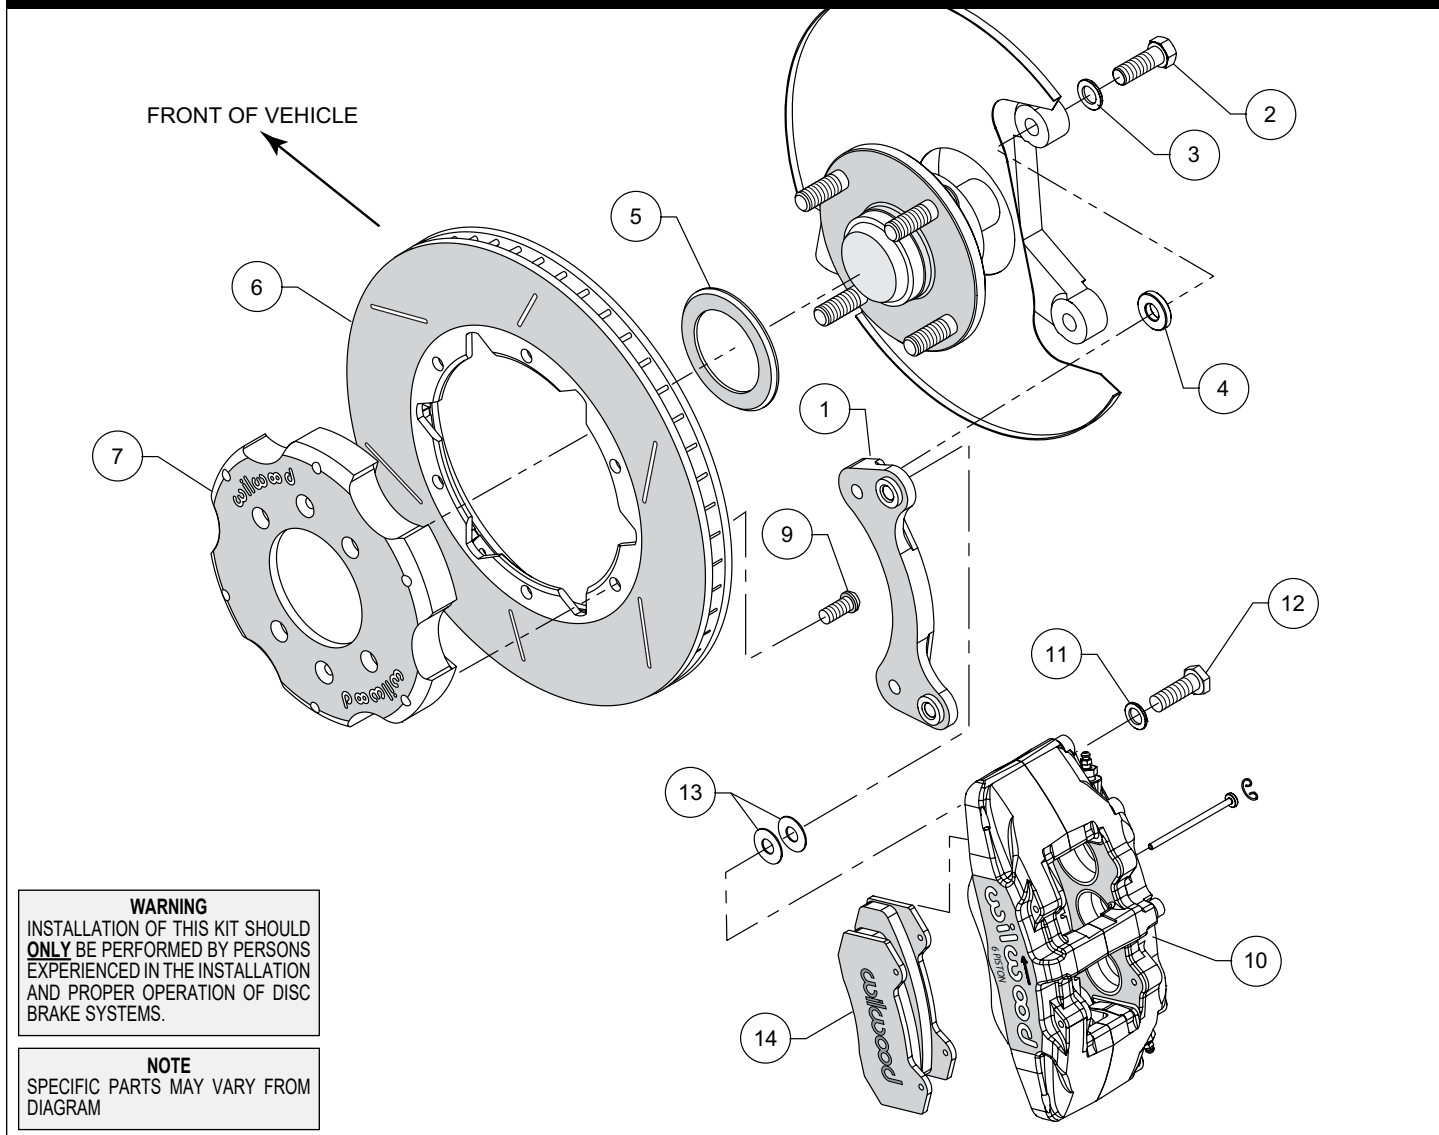
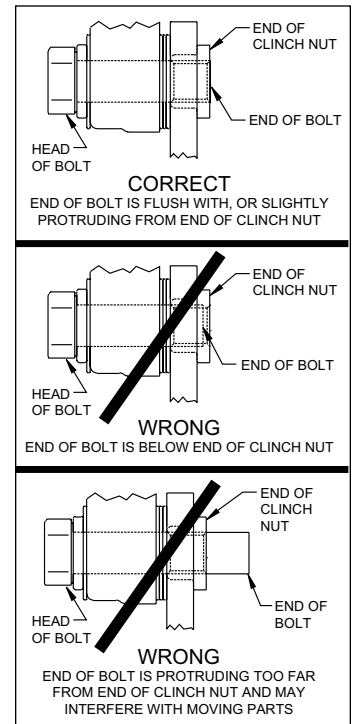

Figure 1. Typical Installation Configuration
Figure 3. Clinch Nut Engagement Diagram
**NOTE:** Numbers in parenthesis refer to the parts list and Figure 1 on the preceding pages.
**CAUTION:** All mounting bolts must fully engage clinch nuts. Be sure to check that all bolts are either flush or protruding through flanged side of clinch nut after shimming, Figure 3.
- Orient the caliper mount bracket (1) as shown in Figure 1 and Photo 1, and install using bolts (2) and washers (3). Place a spacer (4) on each bolt between the bracket and caliper mounting bosses, Figure 1 and Photo 2. Ensure that the flanged heads of the clinch nuts in the bracket are facing outboard, Photo 1. Temporarily tighten the mounting bolts. **NOTE:** The bracket must fit squarely against the mount bosses on the upright. Inspect for interference from casting irregularities, machining ridges, burrs, etc. Remove bolts one at a time, apply red *Loctite*® 271 to the threads and torque to 30 ft-lb.
- Orient the rotor (6) and the hat (7) as shown in Figure 1 and Photo 3. Attach rotor to hat using bolts (9). Using an alternating sequence, apply red *Loctite*® 271 to the threads, and torque to 25 ft-lbs.
- Slide the rotor registration adapter (5) onto the axle register on the axle hub with the smaller O.D. facing toward the rotor/hat (6/7), Photo 4. Slide the hat/rotor assembly onto the axle hub. **NOTE:** The hat must fit flush against the axle hub flange or excessive rotor run out may result. Install three lug nuts (finger tight) to keep the hat/rotor assembly in place while continuing with the installation.
- NOTE:** Please reference the caution statement at the beginning of the assembly instructions. This kit contains distinct right and left hand calipers that must be mounted in a specific direction, as described below. Mount the caliper (10) onto the caliper mounting bracket (1) using bolts (12) and washers (11), as shown in Figure 1. Initially place two .035" thick shim (13) on each bolt between the caliper and the bracket, Photo 5. Ensure that the caliper is mounted so the largest pistons are at the rotor exit end of the caliper, in relation to the direction of rotor rotation. Temporarily tighten the mounting bolts and view the rotor (6) through the top opening of the caliper. The rotor should be centered in the caliper, Photo 6. If not, adjust by adding or subtracting shims between the bracket and the caliper. Always use the same amount of shims on each of the two mounting bolts. **NOTE:** The end of each bolt must be flush with or slightly protruding from the head of the clinch nut, as shown in Figure 3. If necessary place spare shims between washer (11) and caliper mounting ear to achieve the proper clinch nut engagement. Once the caliper alignment and clinch nut engagement are correct, remove the mounting bolts and caliper.
- Remove the two pad retaining pins from the caliper (10) by carefully popping out the pin retaining clips and sliding out the pins. Insert the brake pads (14) into the caliper from the bottom, Figure 1 and Photo 7, with the friction material facing the rotor. Secure the brake pads in place with the pad retaining pins and